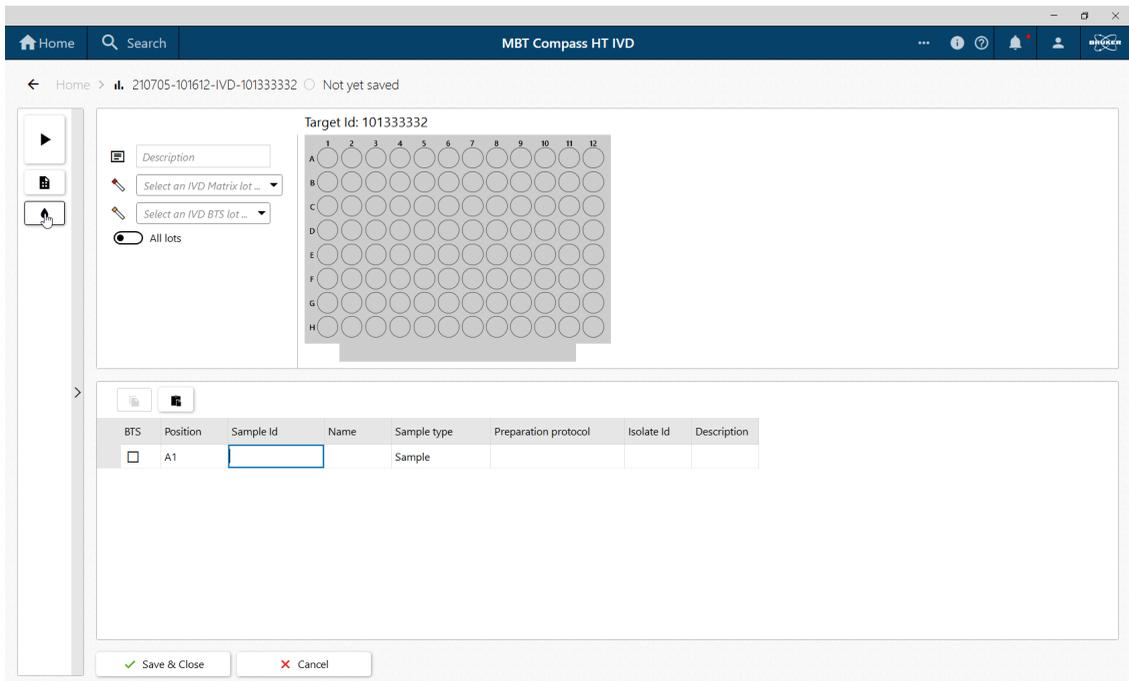

Figure 6-7 MBT Compass HT IVD Run editor
3. After the MALDI target plate identifier has been entered, the **Run editor** will open, see figure 6-7.
- Complete the run definition by typing a description of the identification run in the **Description** field, see figure 6-7.